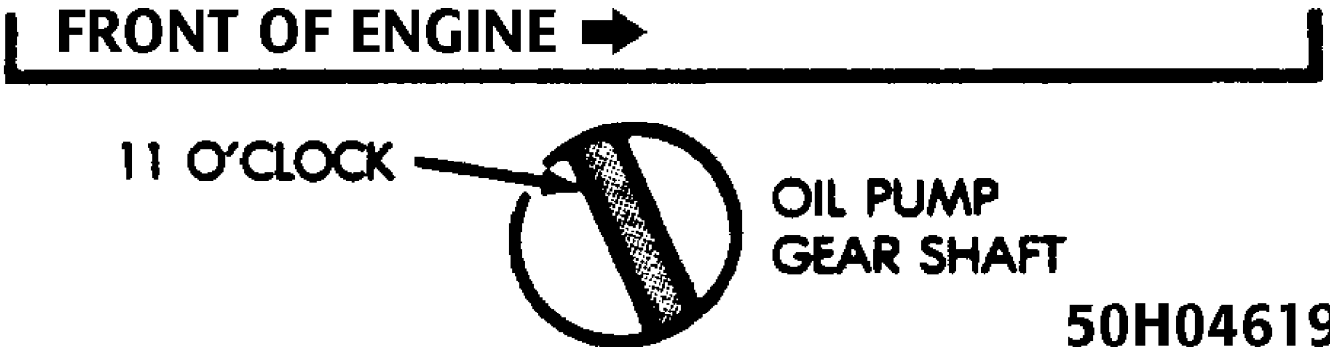

Fig. 26: Aligning Oil Pump Gear Shaft
1) If needed, use a flat blade screwdriver to turn the oil pump gear shaft until the slot is slightly past the 11 o'clock position. See Fig. 26. The oil pump shaft is located down in the distributor hole.